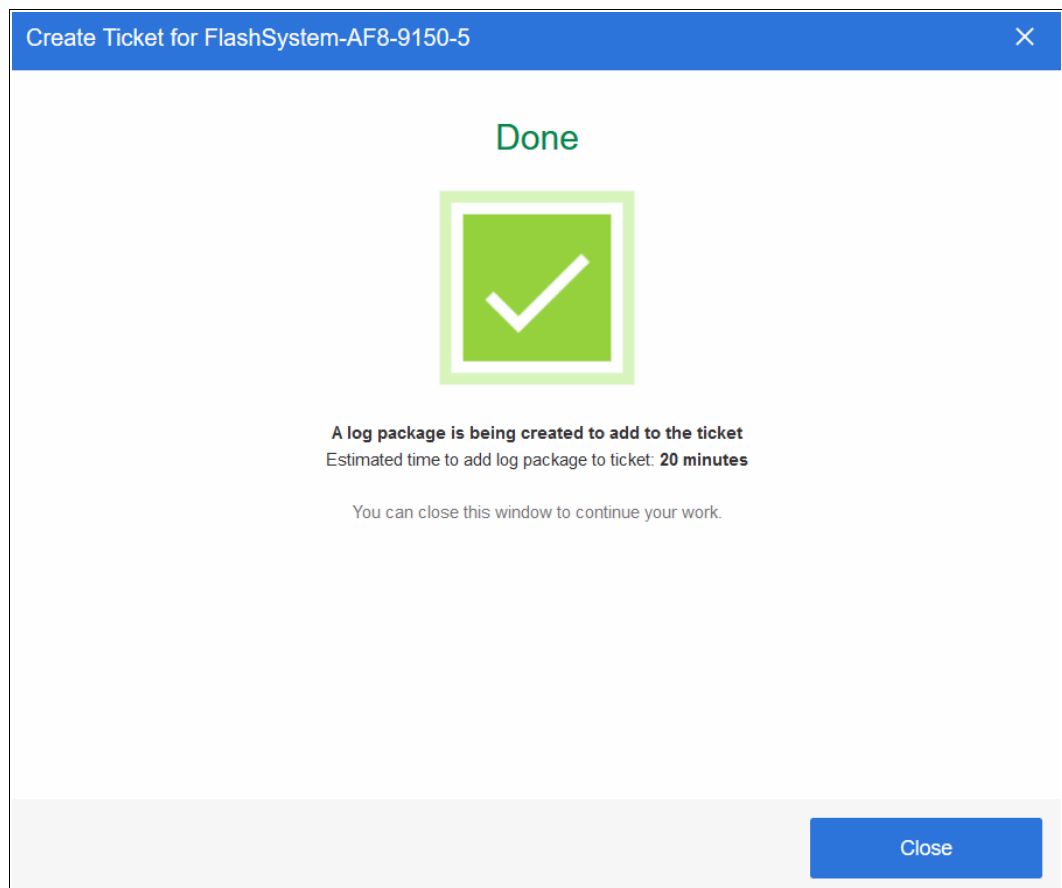

Figure 13-89 Ticket Creation confirmation window
7. Once done, select **Create Ticket**. A confirmation window opens, as shown in Figure 13-89, and IBM Storage Insights automatically uploads the snap to the ticket when it is collected.